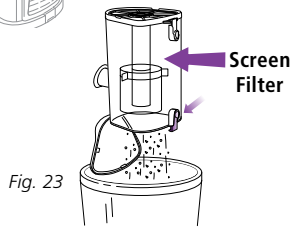

Fig. 23
- If needed, turn the dust cup upside down over the trash receptacle and press the top door release button. (Fig. 23) Tap gently to remove contents.